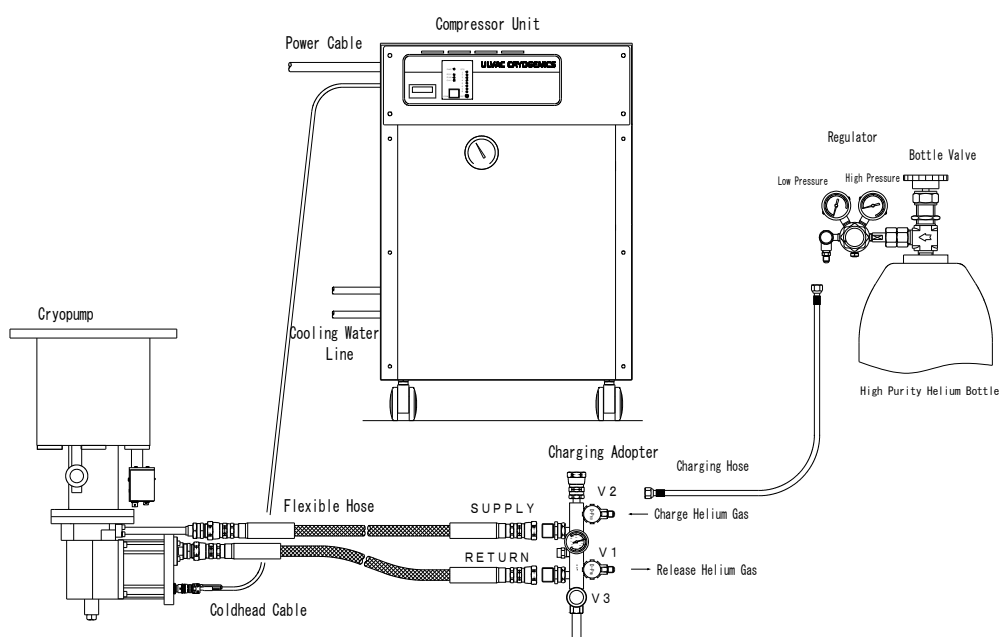

Figure 8-5 Cryopump Decontamination Procedure (2)
- g. Start the compressor unit to operate the refrigerator unit. When operating the refrigerator unit, the helium gas is circulated through the refrigerator, the flexible hoses, and the charging adapter. See Figure 8-5.